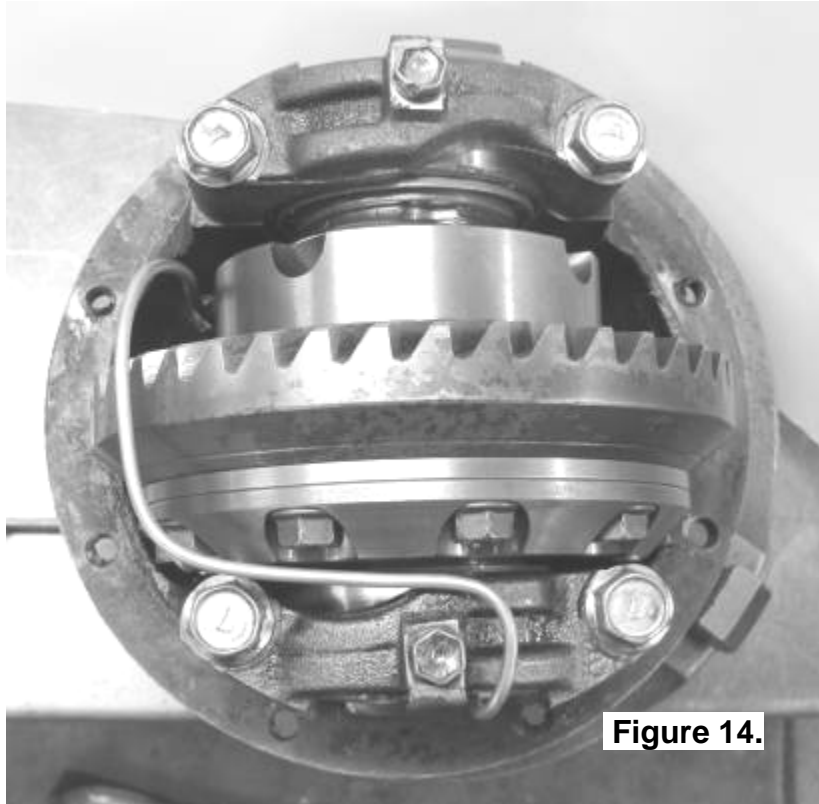

Figure 14.
- With the seal housing tube now firmly secured into the bulkhead fitting, bend the tube so that it closely follows the profile of the differential. (Figs.14., 15. & 16.)